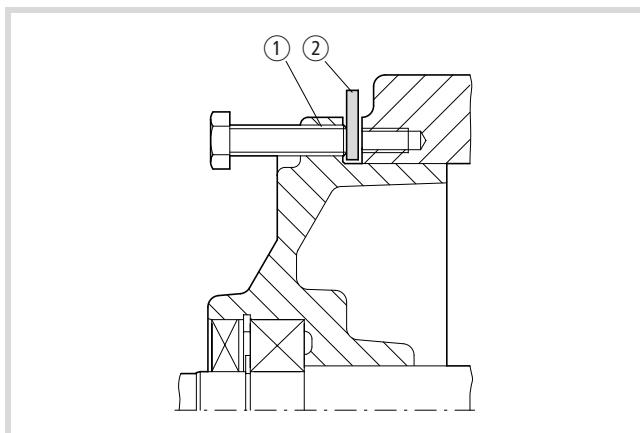

Figure 7: Forcing the end shield from the housing spigot recess
To protect the threaded holes, insert a metal strip (→ item ② in Fig. 7) under the forcing-off screws as soon as the end shield has separated from the motor housing. Both DE roller bearing (1.10) and NDE roller bearing (2.09) are damaged in the removal process on FS 80 to 225, and must be replaced with new bearings.
- ▶ Use the forcing-off thread holes ① in the holes of the end shield (normally one thread size larger than the fastening thread) to force the end shield and rotor from the housing spigot recess (→ Fig. 7).
- Use the forcing-off thread holes in the end shield to force the NDE end shield (2.02) from the housing spigot recess (→ Fig. 7).